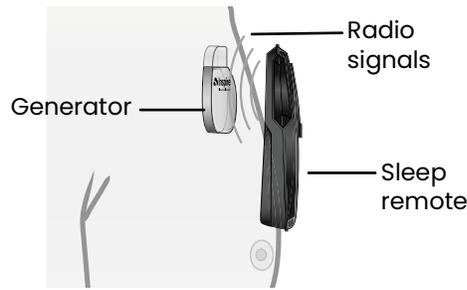

Figure 2. Communication between sleep remote and generator
- b. Start therapy by pressing the Therapy On/Pause button and then hold the remote over the Inspire generator as shown in Figure 2 on page 16 for 10 seconds or until you hear 2 beeps to confirm the device has turned on and the status ring changes to pulsating green. This will trigger a single stimulation pulse which should cause the patient's tongue to move forward or the patient reports feeling stimulation.
- d. Turn the therapy OFF. Press the Therapy Off button as shown in Figure 1 on page 15 and then hold the remote over the Inspire generator as shown in Figure 2 on page 16 for 10 seconds or until you hear 2 beeps to confirm the device has turned off.